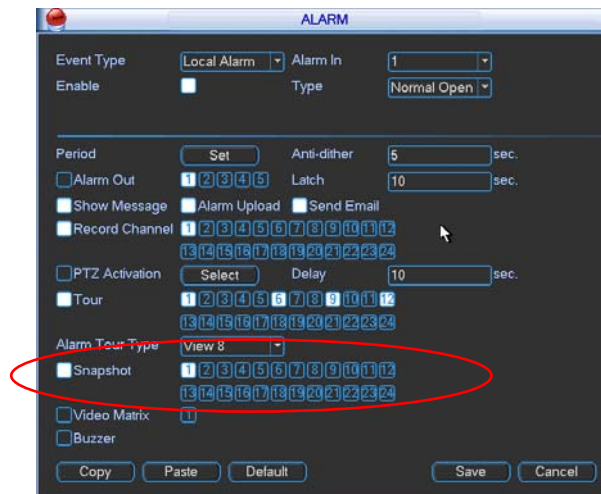

Figure 2-18
- In Encode interface, click snapshot button to input snapshot mode, size, quality and frequency. See the interface on the left of Figure 2-18.
- In Detect interface please enable snapshot function for specified channels (interface in the middle of Figure 2-18). Or in alarm interface (interface on the right of Figure 2-18) please enable snapshot function for specified channels.
Please refer to the following figure for detailed information. See Figure 2-18.